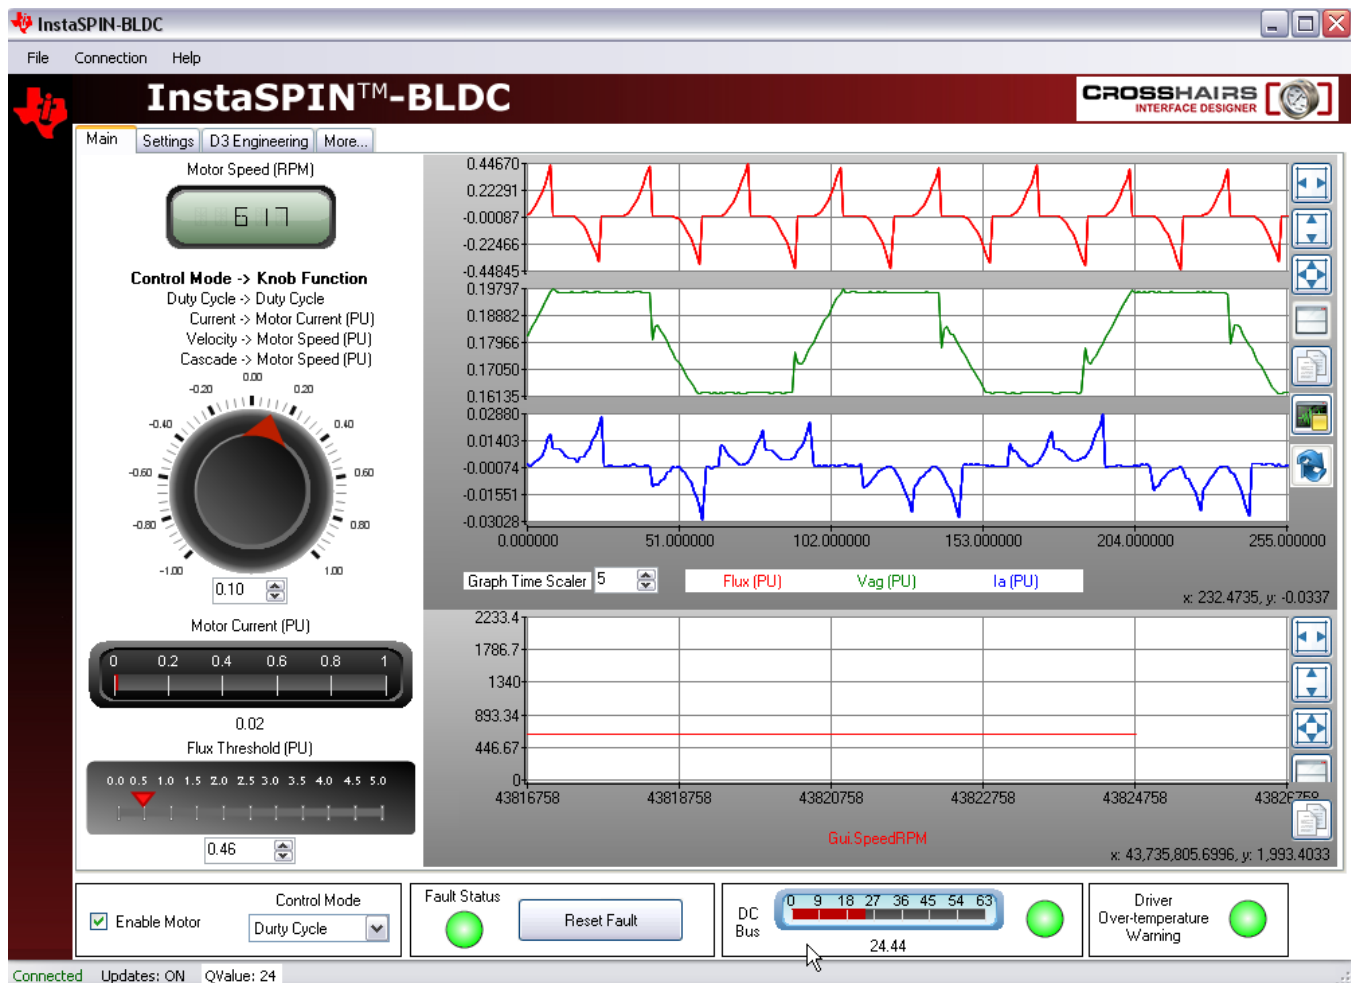

Figure 14. Adjust Flux Threshold
- Adjust the "Flux Threshold" to a smaller value (approximately 0.4) until the commutation happens at the inflection point of the voltage waveform (see Figure 14).